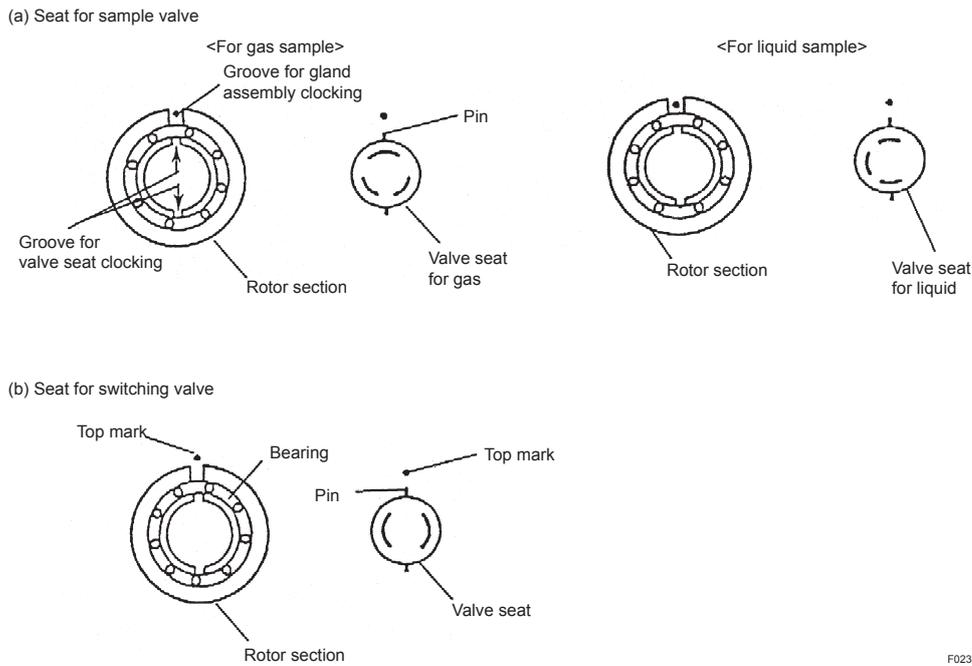

Figure 6.33 Valve Seat
- (11) As shown in Figure 6.33, the valve seat and gland assembly have a specific location to install. Insert these components in the correct location using the location notch.
- (12) Reassemble the components in the reverse order of steps (7) to (9). Firmly tighten the nut by fingers. Do not allow oil or grease to adhere to the seat.